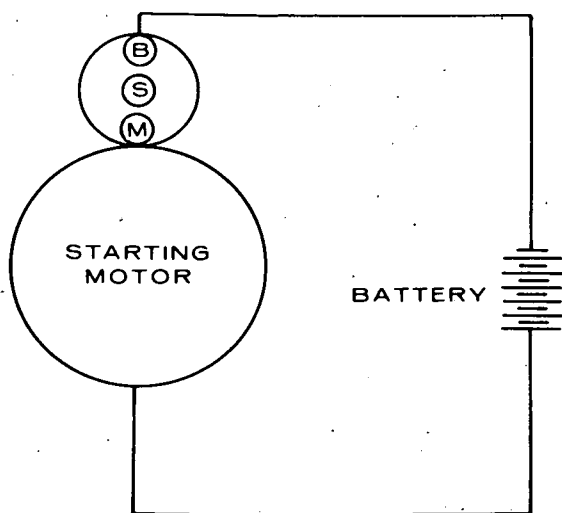
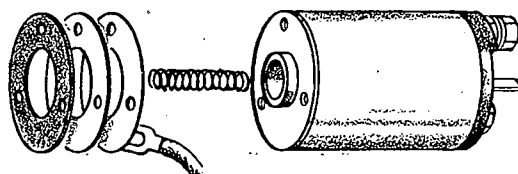

FIGURE 49. BATTERY CONNECTIONS
FIGURE 50. ADJUSTING PINION CLEARANCE
2. **Adjusting Pinion Clearance.** Connect the battery to the starting motor as shown in Figure 49. This will allow the pinion of the starting motor to slide and stop. In this state, measure the clearance between the end of the pinion and pinion stopper when the pinion is pushed lightly toward the commutator end. Clearance should be .02" to .06". Adjust for proper clearance by removing the magnetic switch attaching screws and select proper thickness of the fiber packings shown in Figure 50.